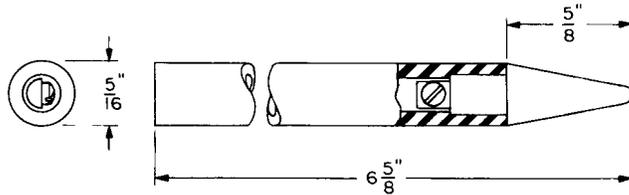

Fig. 8—513A Test Pick Tool
2.08 513A: The 513A test pick tool (Fig. 8) is used in toll and exchange cable testing. A W2BJ cord and a 347B plug are required when this tool is used with the 108A amplifier.